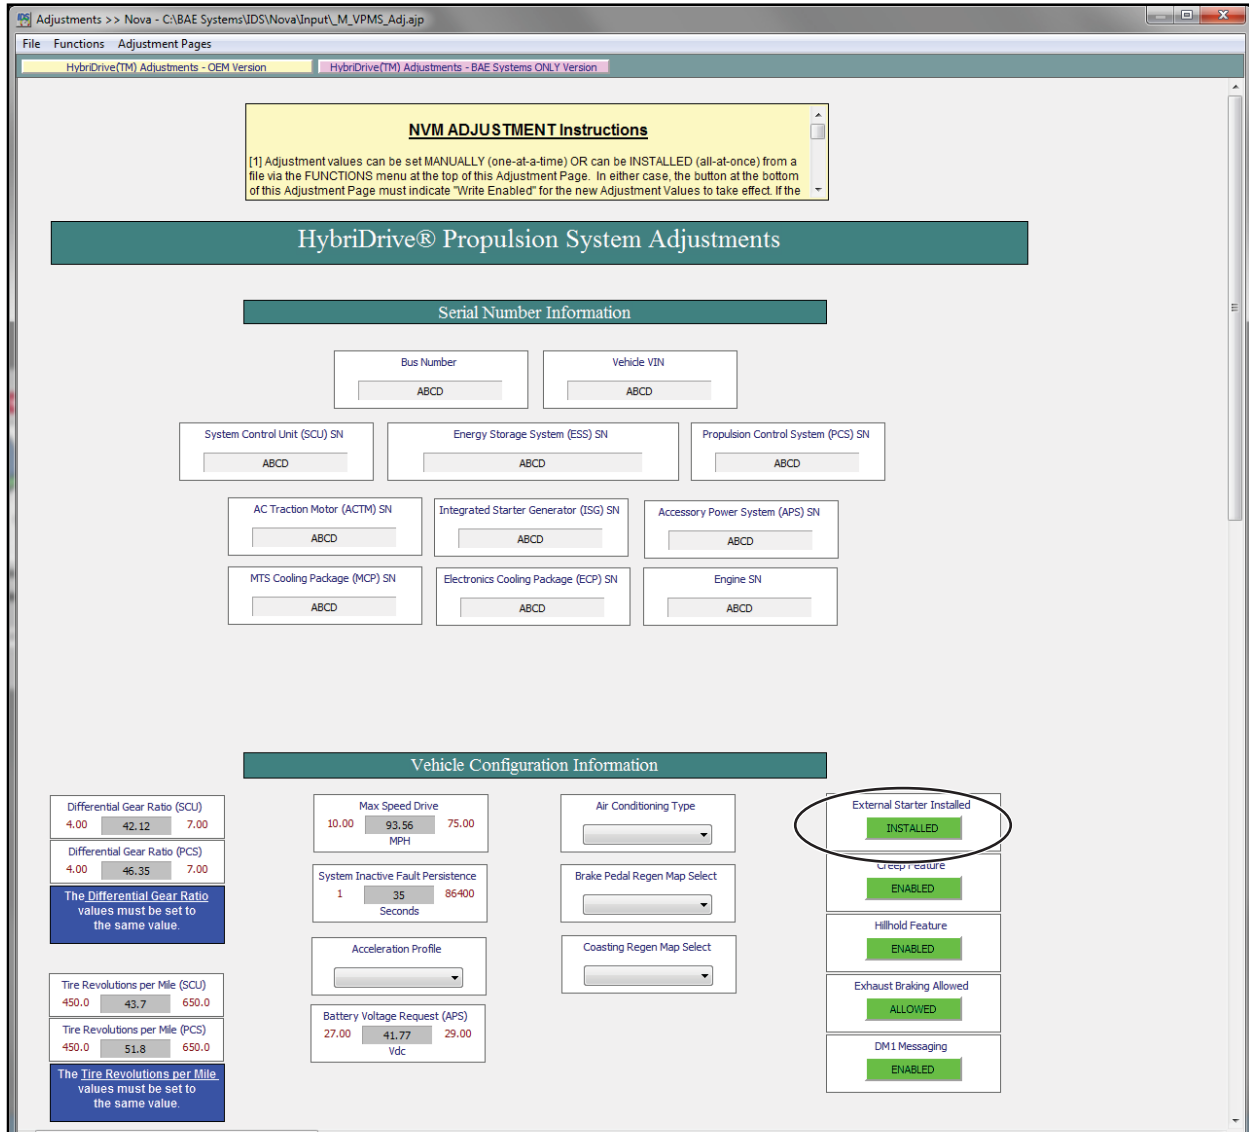

Figure 5 - Change to "Not Installed"
- In the "External Starter Installed" field, click the green button to change the status to "Not Installed". See Figure 5.